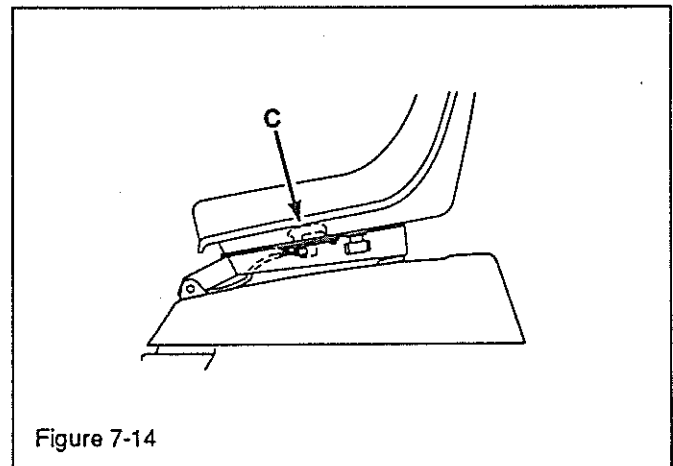

Figure 7-14
2. The second switch is located inside the seat, (C, Figure 7-14). It will activate when the operator is positioned in the seat. There is no adjustment.